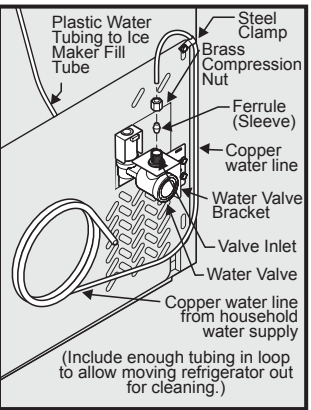

Figure 1
4. If you use copper tubing - Slide brass nut, then ferrule (sleeve) onto water supply line. Push water supply line into water valve inlet as far as it will go (¼ inch). Slide ferrule (sleeve) into valve inlet and finger tighten nut onto valve. Tighten another half turn with a wrench; DO NOT overtighten. See Figure 1.